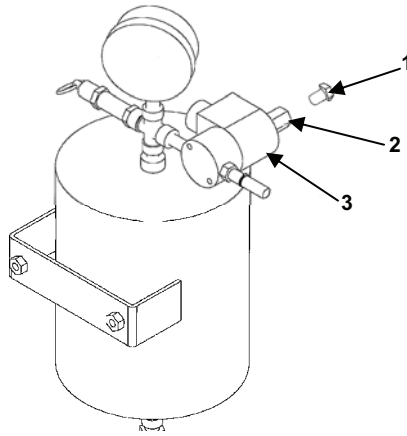

Figure 4. Air Shutoff Valve Vent Plug.
1. Remove vent plug (Figure 4, item 1) from adapter (Figure 4, item 2) on the 3-way solenoid valve (Figure 4, item 3).
2. Clean the vent plug (Figure 4, item 2) with soapy water. Ensure air can flow through the plug.